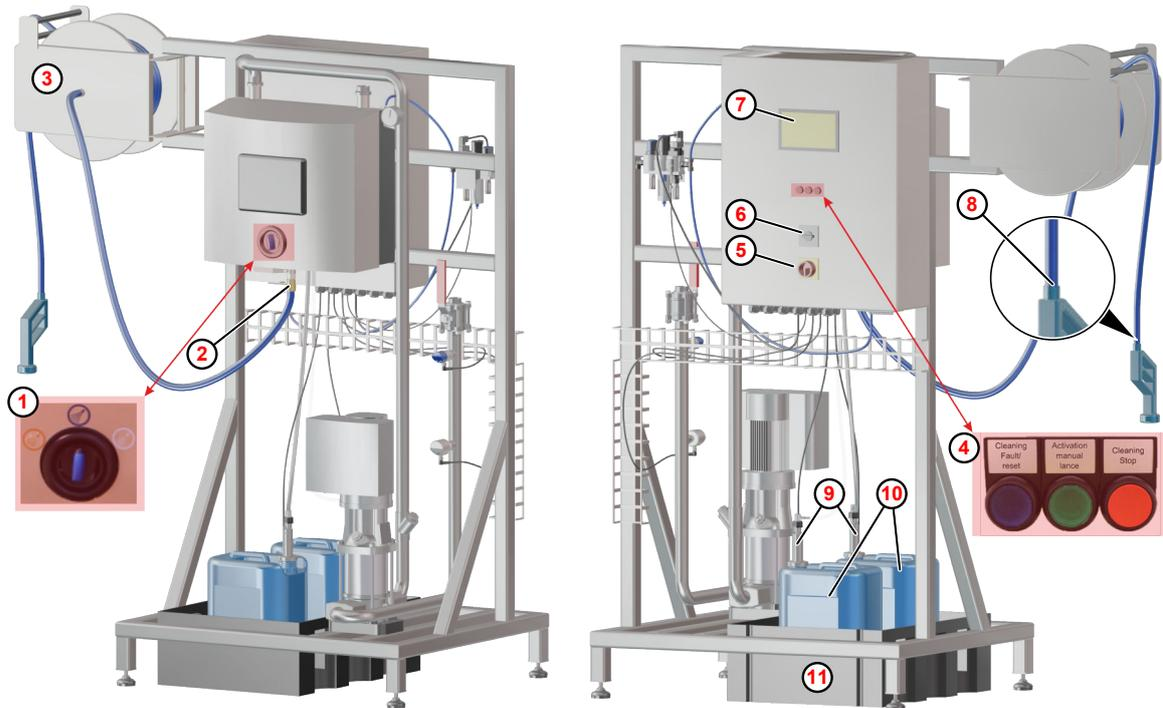

Fig. 42: BFH Foamatic with hose reel
1. ➤ On the control panel, go to Fig. 42 ⑦ the submenu ‘*Select Program and Area*’ and select the cleaning program and area.